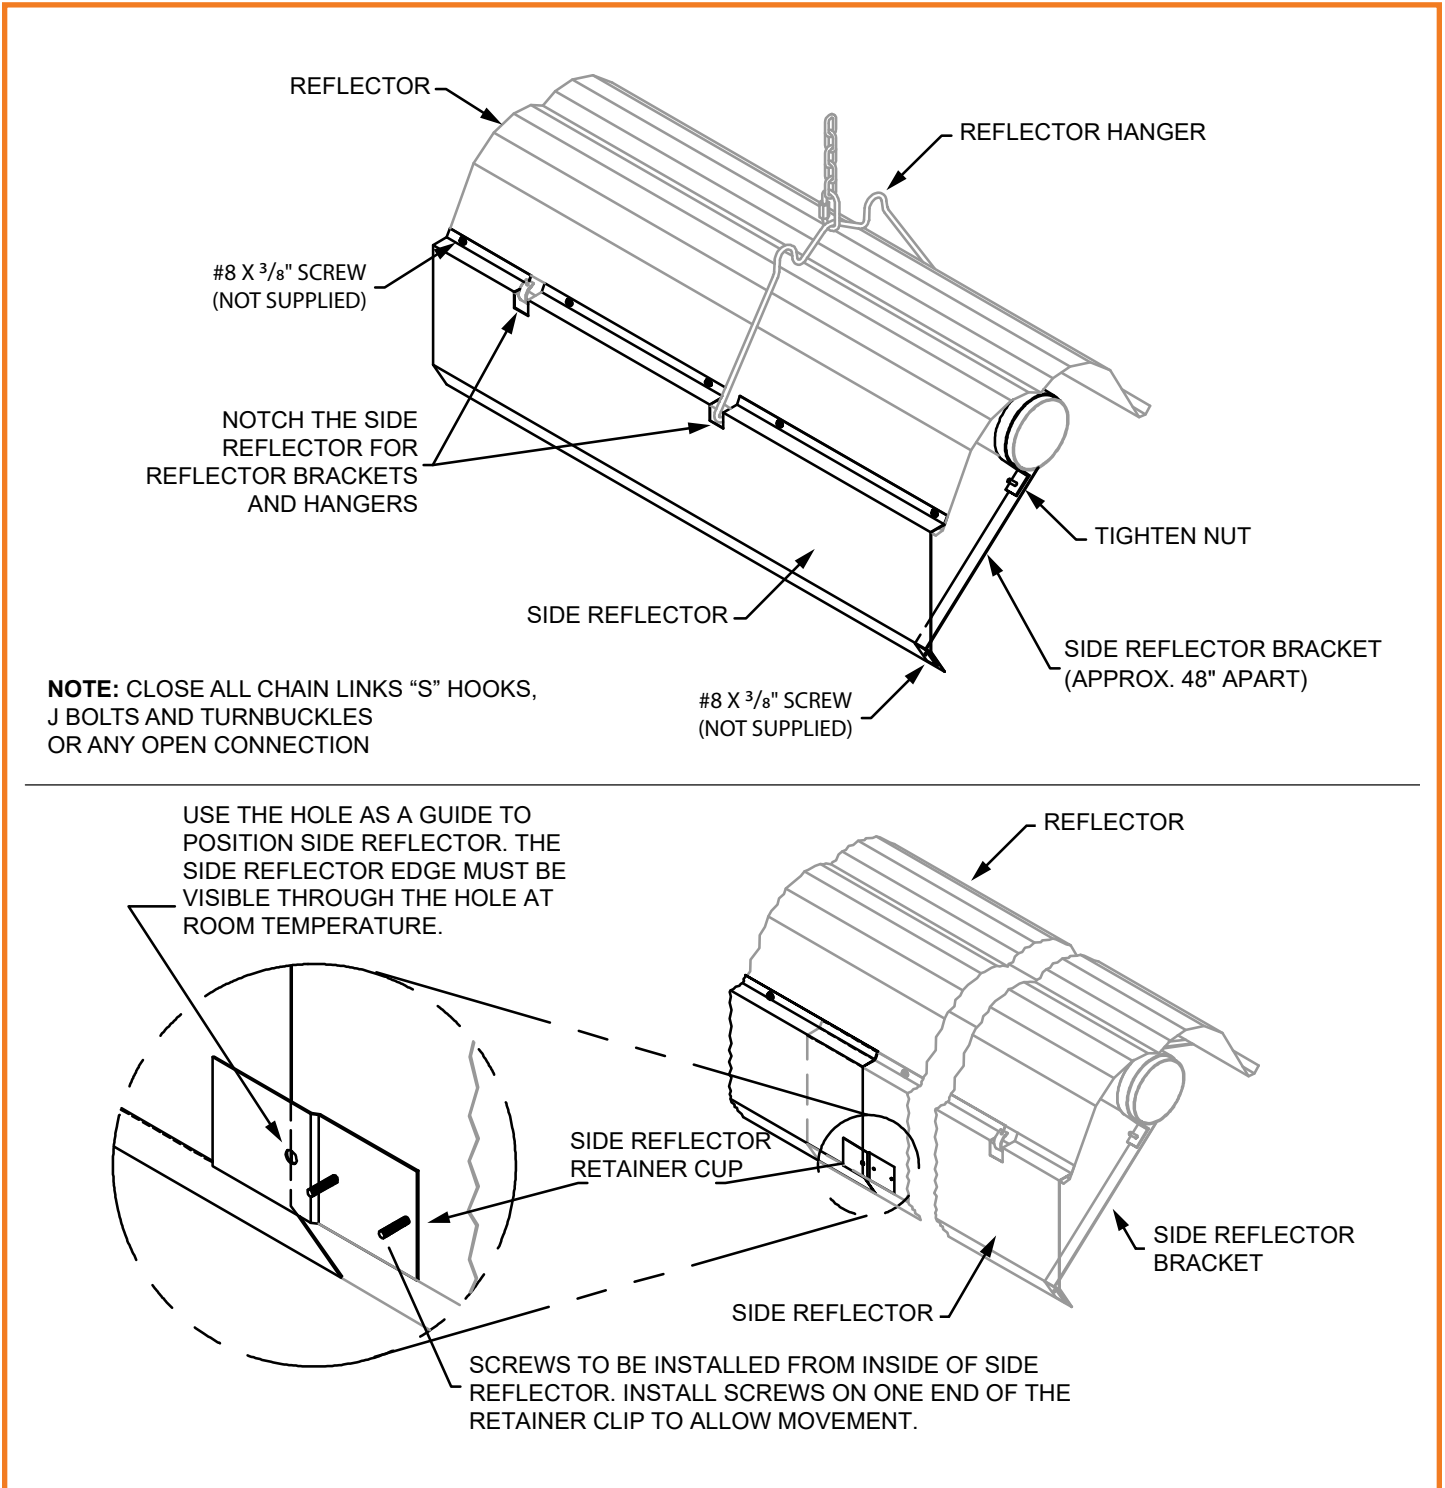
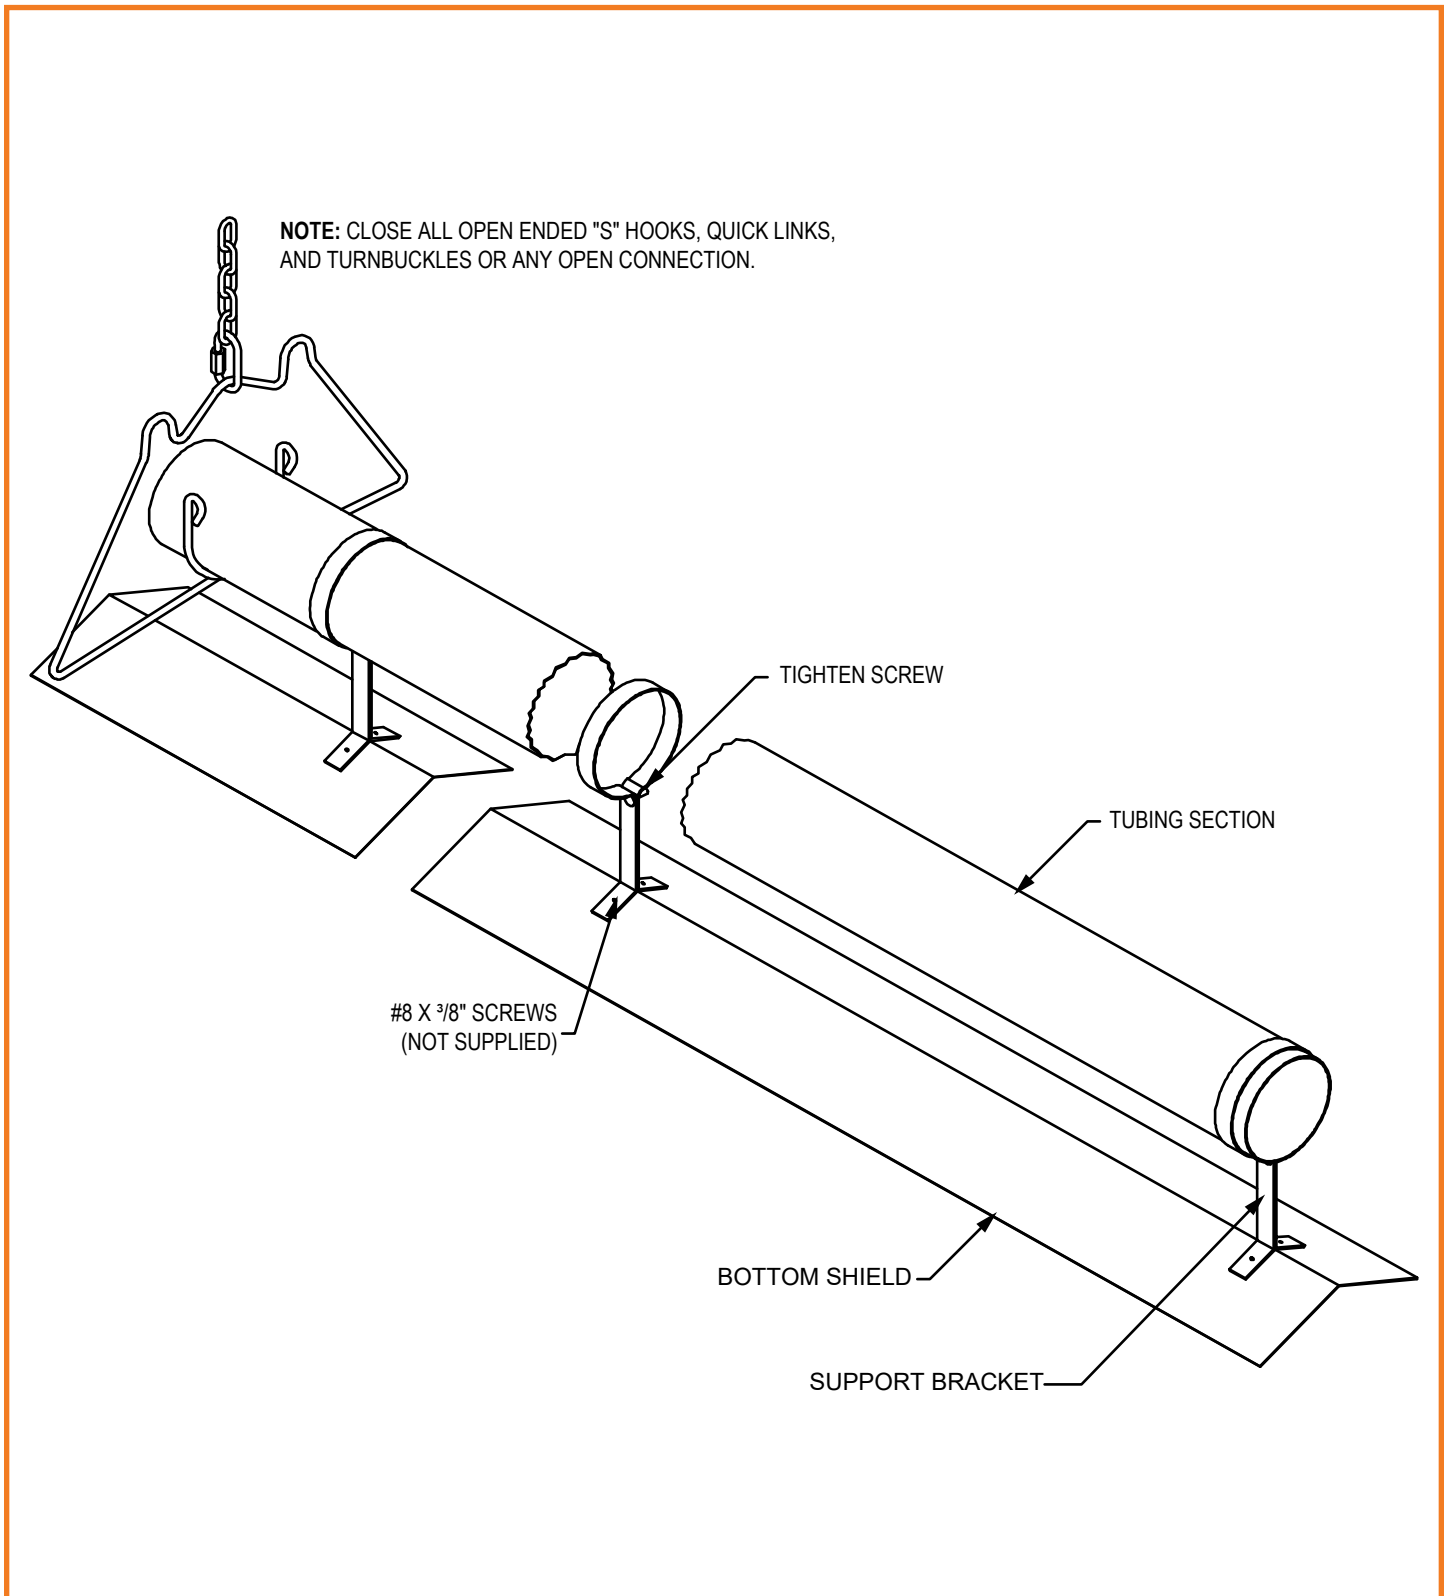

Figure 21: Side Shield Installation
Figure 22: Bottom Shield Installation
- If used, install side shields (reflectors) and/or bottom shield as required. Refer to Figure 21 and Figure 22 for details.
- Side shields are 124" (315cm) long. Fasten one side shield per reflector with #8 x 3/8" screws. Use three side shield brackets per side shield. Space about 48" (122cm) apart, refer to Figure 21.
Bottom shields need not overlap. Each 5' section is held with two support brackets (see Figure 22).